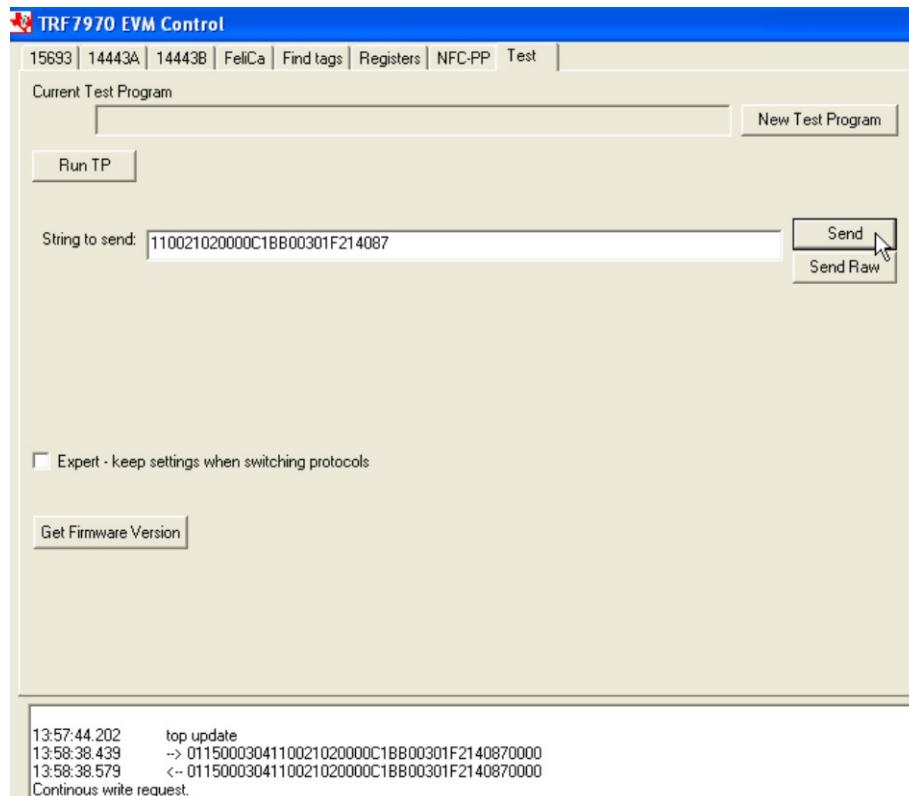
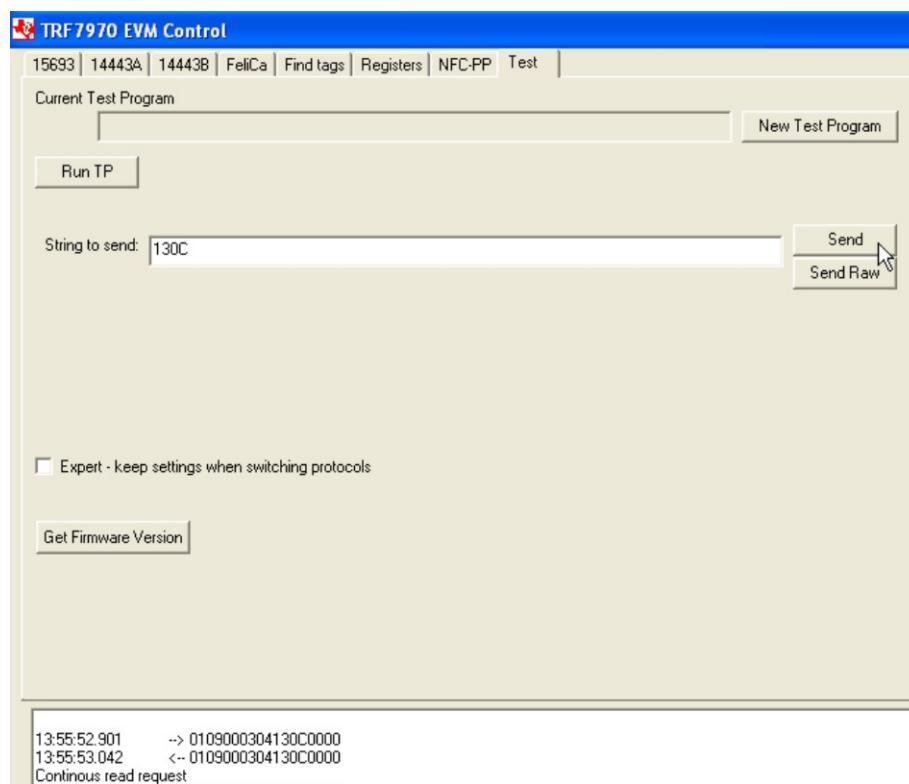

Figure 39. Continuous Write to Registers 0x00 to 0x0B Example
Figure 40. Continuous Read from Registers 0x00 to 0x0B Example
- For observing a read or write continuous to the registers of the TRF7970A during code development with a logic analyzer. These examples are using the Send button which adds on the necessary bytes before and after data to send strings are entered. This example is setting up the TRF7970A for full power out and ISO15693 operation (see Figure 39 and Figure 40).